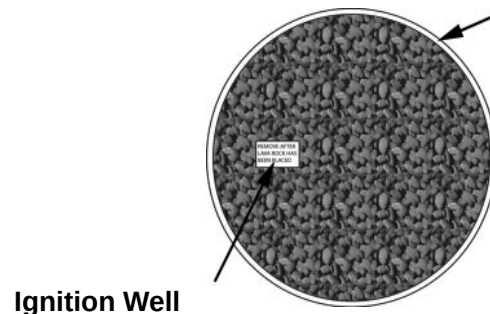

Figure 12
12. Pour the lava rocks into the burner completely covering the burner. See Figure 12